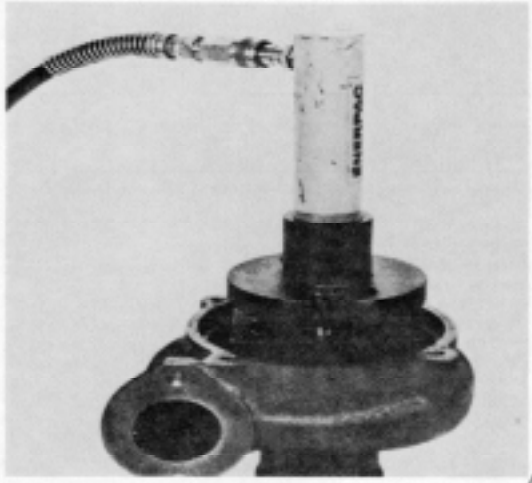
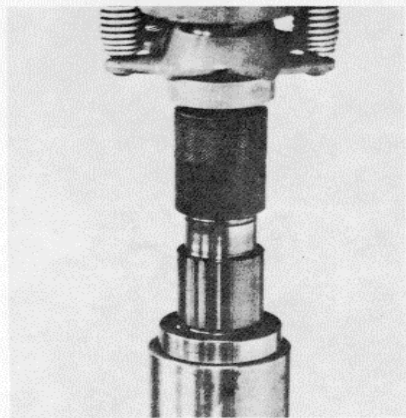

Figure 16J-2. Remove the Impeller
Figure 1 6J-6. Press the Shaft into the Small Bearing
3. Remove the retaining ring (2) holding the bearing and the shaft assembly (4, 5, 6) in the water pump housing.
4. Support the water pump housing at the drive end. Press the shaft and bearing assembly from the housing by applying pressure to the impeller end of the shaft, Figure 16J-3.
5. Remove the seat (11), drive the oil seal (7) and the face seal (10) from the housing. Discard the seat and seal.
6. Remove the retaining ring (3) retaining the outer bearing (4) from the shaft, Figure 1 6J-4. Support the outer bearing with a 3375326 Bearing Separator and press the shaft (5) from the bearing.
7. Use a 3375326 Bearing Separator supporting the inner bearing (6) to press the shaft from the inner bearing.
2. Visually inspect the water pump housing and inlet housing for cracks, corrosion and excessive wear. Measure the water pump housing bore, Figure 1 6J-5; if larger than maximum specifications, replace the housing. See Table 16J-1.
3. Support the water pump housing (9) at the impeller end. Use the 3375320 Seal Driver to press the oil seal (7) into the bore. Seal the lip up toward the bearing, until it is even with the shoulder of the inner bearing surface.
4. Apply a thin coat of Loctite 601 to the bearing(s) outer race only, Figure 1 6J-8. Lubricate the shaft seal mating surface. Position the bearing and the shaft assembly(3, 4, 5, 6) into the water pump bore and press it into the housing until the outer bearing (4) seats. Use a 3375318 Bearing Mandrel to support the bearing outer race.
6. Apply a thin coat of Loctite 3375066 to the brass case on the face seal (10) Figure 1 6J-9. Use a 3375448 Mandrel to support the water pump on the drive end of the housing - not on the shaft - and press the face seal into the housing until it seats, Figure 16J-10.
1. Lock the bracket end of the hub (15), Figure 1 6J-14, in a vise so the hub is parallel with the floor. Remove the pipe plug (7).
2. Remove fan hub cover (9) and O-ring (6). Discard the O-ring.
3. Wipe excess lubricant from the hub and shaft and re-move the hub locknut (5) and washer (14).
4. Keep the hub and pulley (3, 8) parallel with the floor, so the front roller bearing (1) will not fall out, remove hub and pulley from shaft. Remove the bearing and bearing cone spacer (12) from the hub.
5. Turn the hub over and pry out the oil seal (11) and dis-card. Remove the rear half of the bearing (1) and spacer(13).
7. The roller bearing cups (1) can be removed with a suit-able flat bottom brass punch and a plastic hammer. Strike each side alternately until the cups drop out.
8. The snap ring (10) need not be removed.